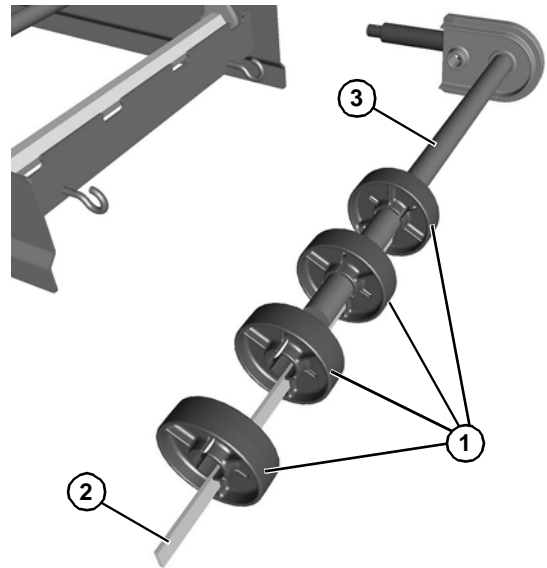

Figure 71
1. Place the pucks (Figure 71, item 1) onto the alignment bar (Figure 71, item 2), and install onto the idler shaft (Figure 71, item 3).
2. Slide all the idler pucks (Figure 71, item 1) along with alignment bar onto idler shaft (Figure 71, item 3).